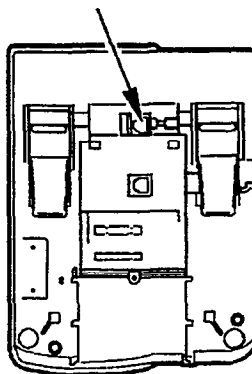

Figure 4-5 Connecting a Multiline Terminal to the System
1. Plug a telephone cord into the modular jack on the bottom side of the Multiline Terminal. Refer to Figure 4-5 - Connecting a Multiline Terminal to the System.